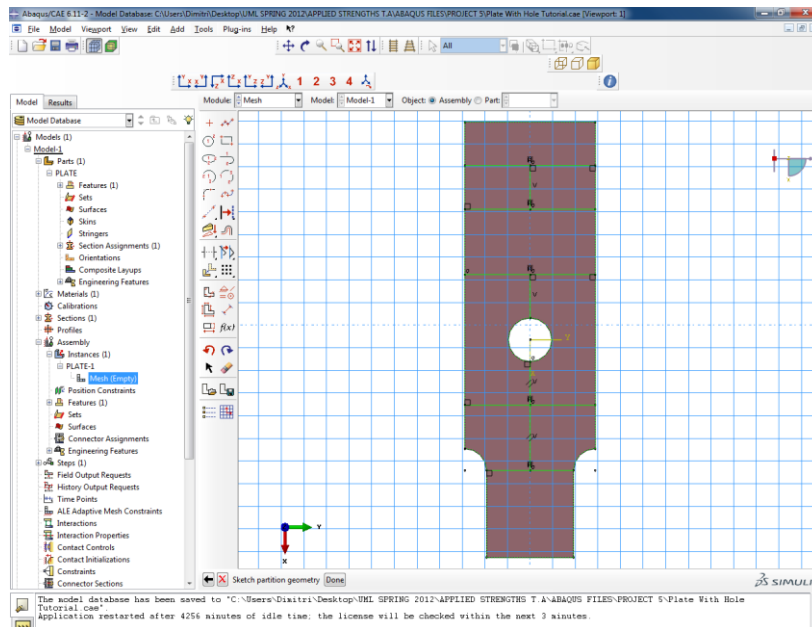

Figure 17. Partitioned Geometry
- To create a mesh for the model geometry, expand **Instances (1)** in the model tree and then expand the **PLATE-1** instance in the model tree and double click **Mesh (Empty)**. Be sure to mesh in the **ASSEMBLY** part of the model tree and not the **PARTS** section. If this selection is done correctly, then the geometry should change color to pink.
- Using the **Create Lines: Connected**  icon in the module create lines such that the geometry looks identical to that in Figure 17.